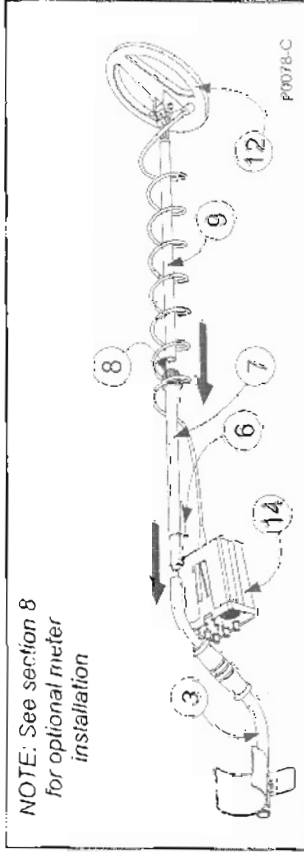

Figure 4 - Completing the shaft assembly
- a) Slide the intermediate shaft (7) into the upper shaft (3). The black "V" clip (6) must be facing down along the foam handgrip section of the upper shaft (see Figure 4).
- a) Remove the tape on the lower fibreglass tube (9) that is holding the black teardrop washers (10) in place. **NOTE: Ensure the washers do not fall out after removing the tape.**
- b) Remove the black nylon wing nut, and bolt (11) from the coil (12).
- c) With the teardrop washers in place, push the lower tube (9) into the coil bracket so that the holes line up.